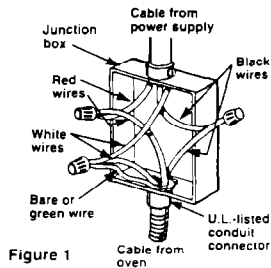

Figure 1
3. Connect the two black wires together, then connect the two red wires together. See Figure 1